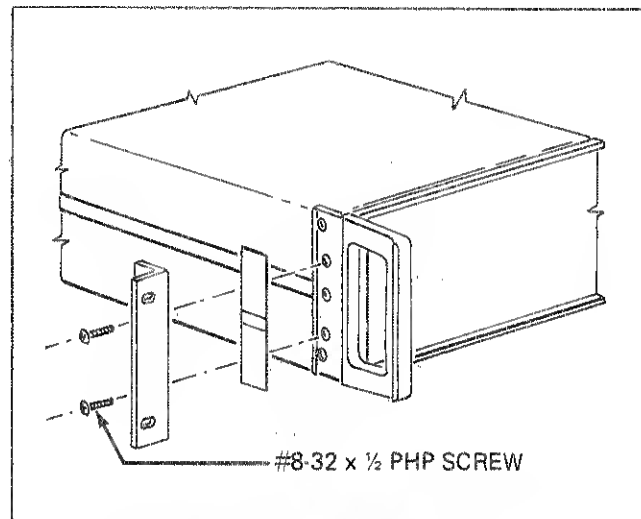

Figure 7-1. Rack Mounting Kit
2. Remove the front corner screws which match the hole pattern in the rack mounting ears (see Figure 7-1).